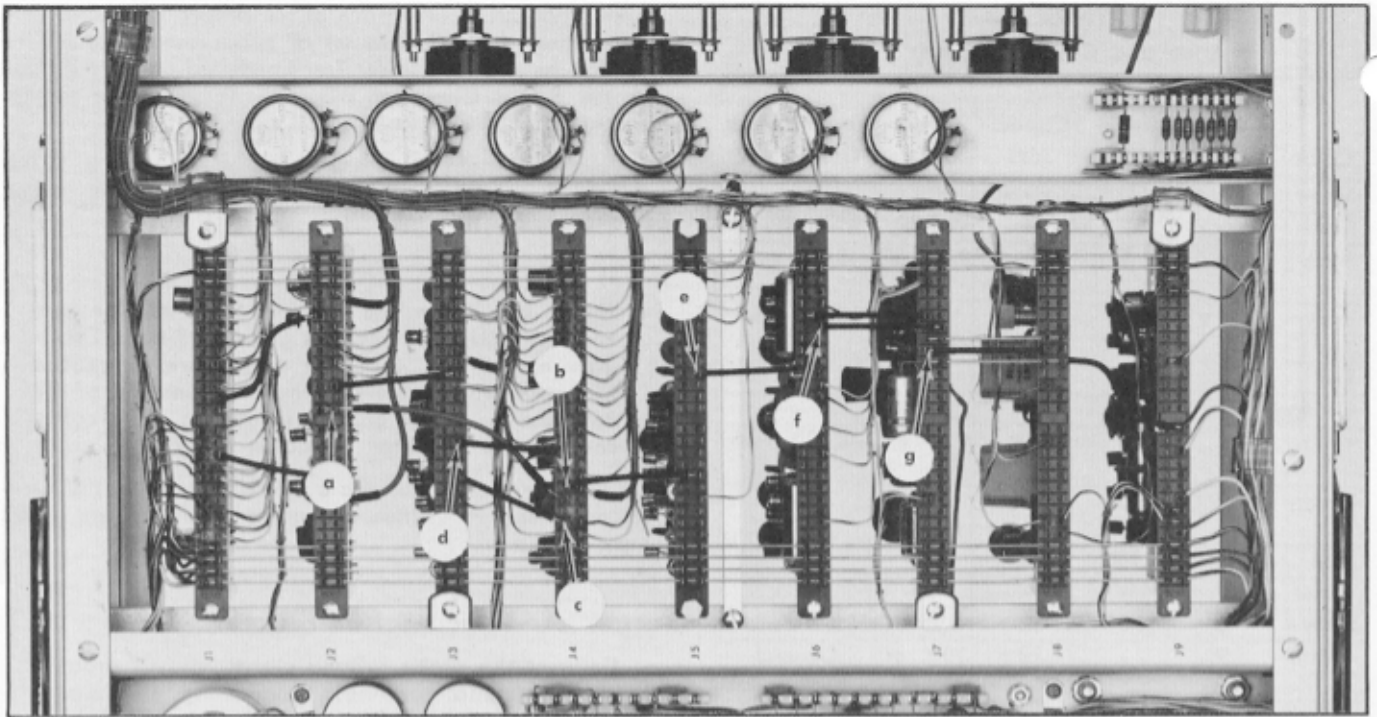

Fig. 5-7. Basic test points on the bottom of the Type R116 for tracing circuit waveforms through the instrument. See step 2 of the Troubleshooting Procedure.
2. Check Circuit Output Signals. Place the Type R116 so that the circuitry on the bottom of the instrument is exposed. Check for waveforms through the circuitry at the test points shown in Fig. 5-7 and the Interconnecting diagram (#11) as follows: